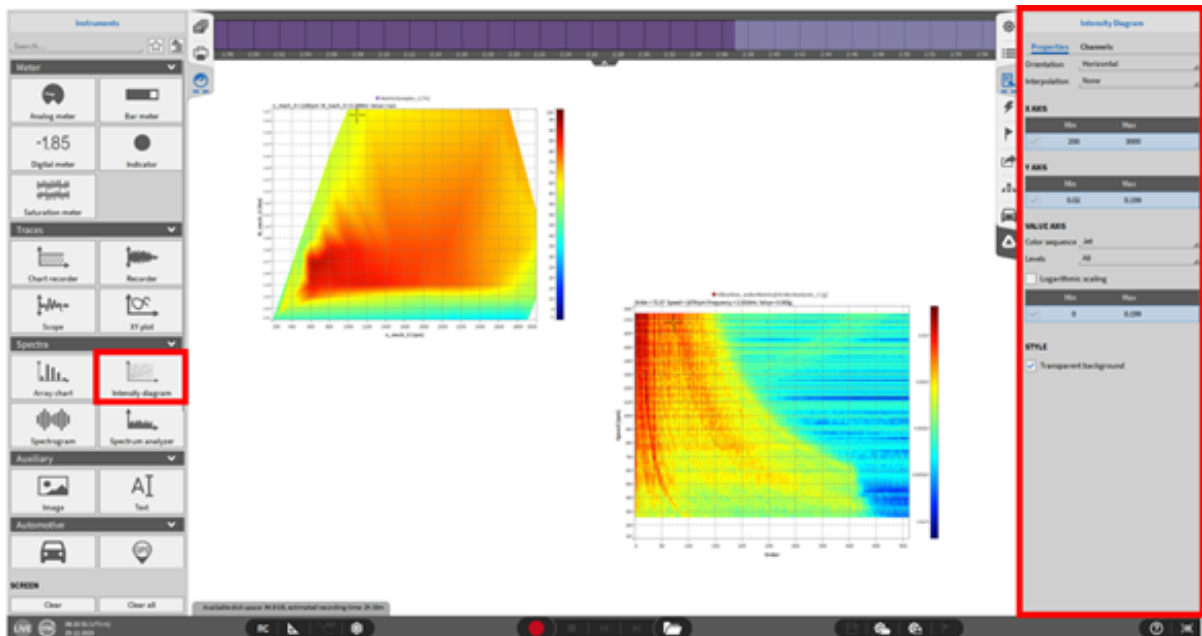

Fig. 8.48: Intensity Diagram instrument - overview
- Select levels to have a more defined grading in the matrix. Select the number of levels which should be defined with a black border. The matrix on the left in Fig. 8.48 shows no grading and the matrix on the right has a 10-level grading.